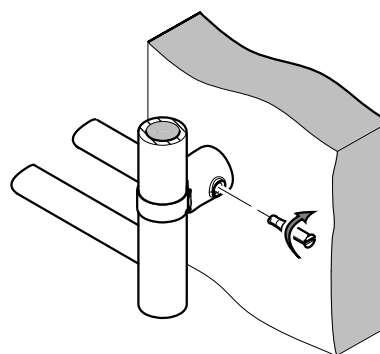

Fig. 5
Note: Ensure the mounting brackets are aligned to allow easy assembly of the bracket pins once the towel rail is in place, it is recommended that the pins are inserted towards the adjacent wall (from outside the product) to provide the clearance necessary for the use of tools to secure the rail in place - see Fig. 5.
Lift the towel rail complete with the collars attached and align with the mounting brackets which were previously fixed to the wall. Insert the collar ends into the mounting brackets and fix in place using the bracket pins (D). The rail is then locked in place by rotating the pins a quarter turn - see Fig. 5.